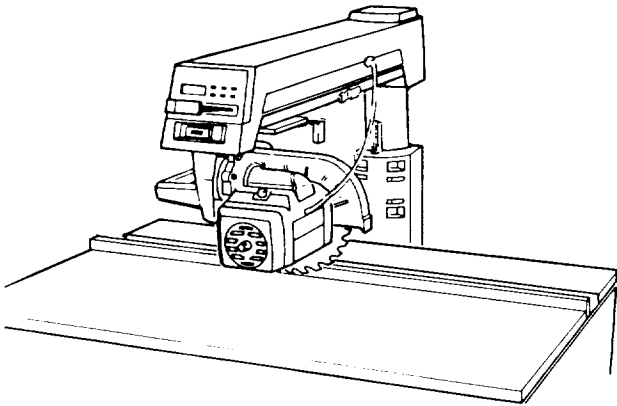

Fig. 125 - In-rip Position
5. Unlock the *swivel lock* and turn the *motor* to the in-rip position, with the *blade* between the *motor* and the *fence*. (Figure 125)